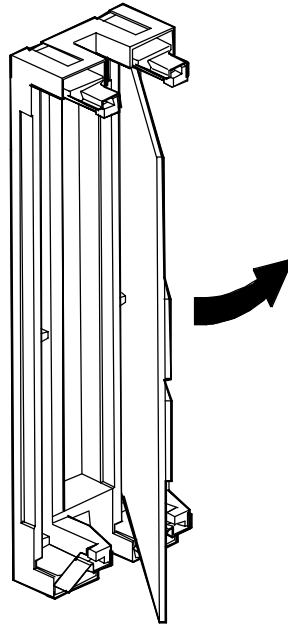

Figure 4-8 *Inserting the SIMM*
3. Carefully tilt the SIMM toward the locking tabs (see Figure 4-8).